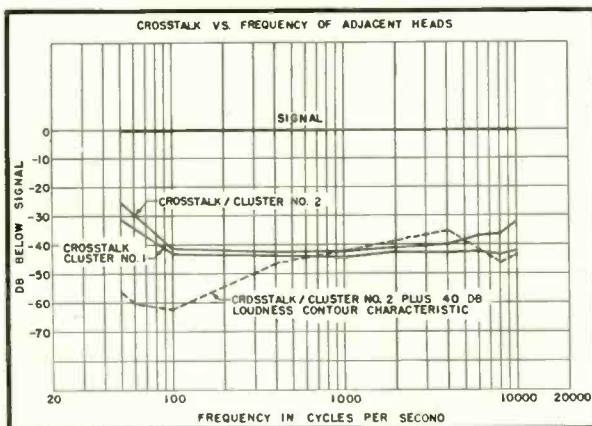

Fig. 6. Measured performance of clusters with respect to crosstalk between adjacent heads.
(5) *Cross-talk of adjacent heads.* The curves of Fig. 6 depict the signal-to-crosstalk ratio between adjacent heads. This measurement was made by recording frequencies at a level 10 db below 100 per cent modulation on head No. 3 of cluster No. 1 and No. 2. While recording on head No. 3, normal recording bias without signal was applied to the adjacent heads No. 2 and No. 4. Subsequently, heads No's 2, 3 and 4 were used as reproducing heads and the output levels obtained from the three adjacent tracks were noted. In Fig. 6, the line marked SIGNAL indicates the output from the track on which the various frequencies had been recorded. Below the signal reference line, two curves are shown which indicate the outputs that had been obtained when playing back the
The crosstalk values shown on Fig. 6 appear more than adequate for motion picture presentation in auditorium-type theaters. This is based on the findings by Mueller,1 which show that the useful volume range for dialog in a theater is of the order of 25 db, and that even for music this range never exceeds 35 db. In the case of review rooms, in which the audience noise is from 30 to 35 db above hearing threshold, compared to 40 to 45 db in auditorium-type theaters, the use of magnetic decouplers may prove desirable.